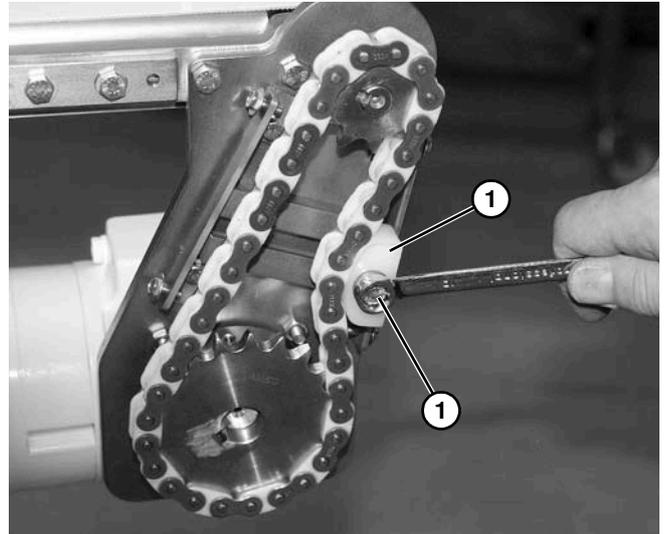

**Figure 65**
10. Install screw and washer (**Figure 65, item 1**), timing chain tensioner (**Figure 65, item 2**), and spacer (**Figure 65, item 3**) onto drive mounting bracket.